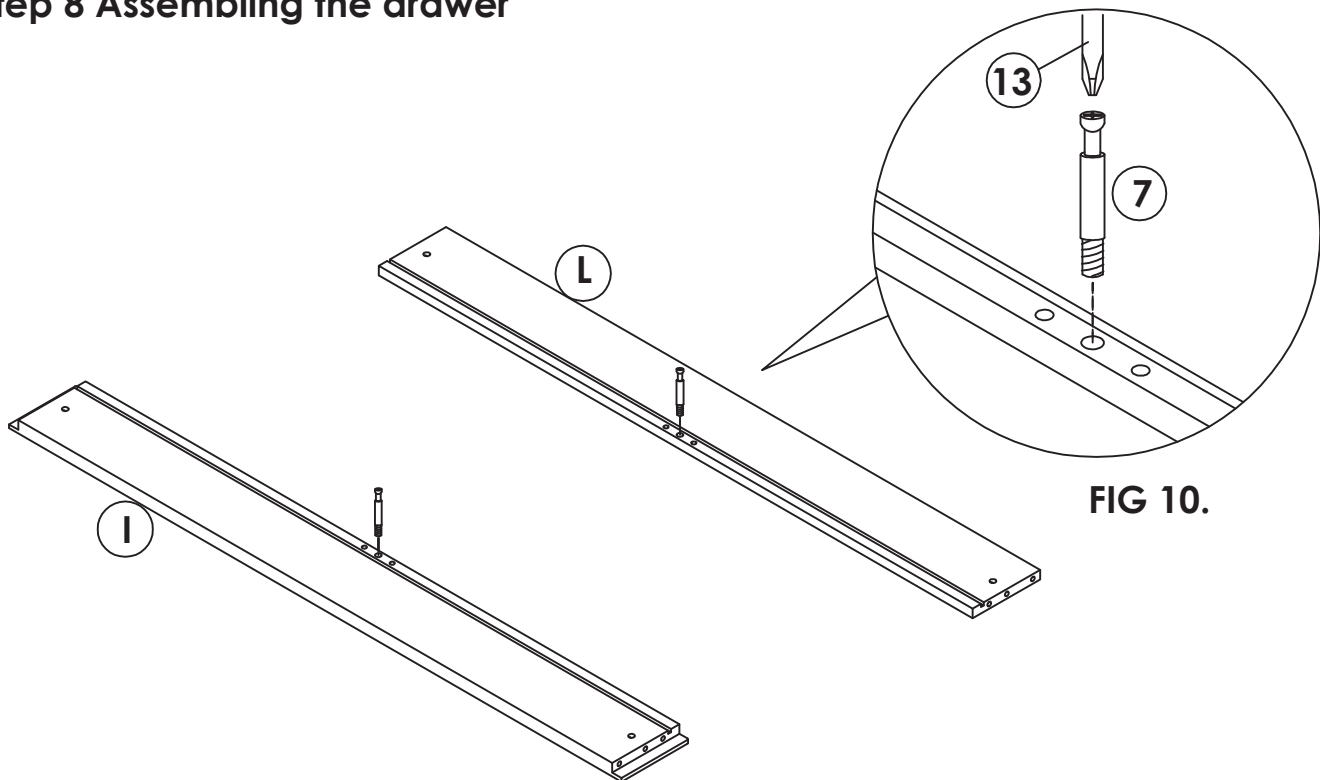

FIG 10.
attach 2pcs metal dowel screw (7) to drawer front (I) and drawer back (L) using screwdriver (13) as shown in fig 10.